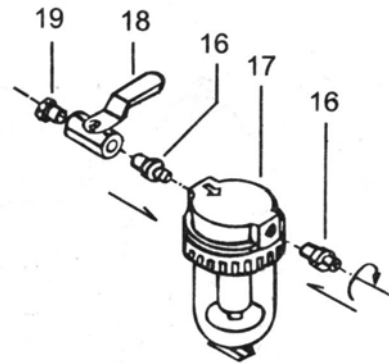

Fig. 2
2. See figure 2 for assembly of the water separator (17). Two (16) nipples are screwed in on either side of the separator. Connect the supply air valve (18) to one nipple and then connect the coupling (19) to the other side of the supply air valve. When you are ready to use the sandblasting tank, connect the hose from the compressor to the coupling (19).